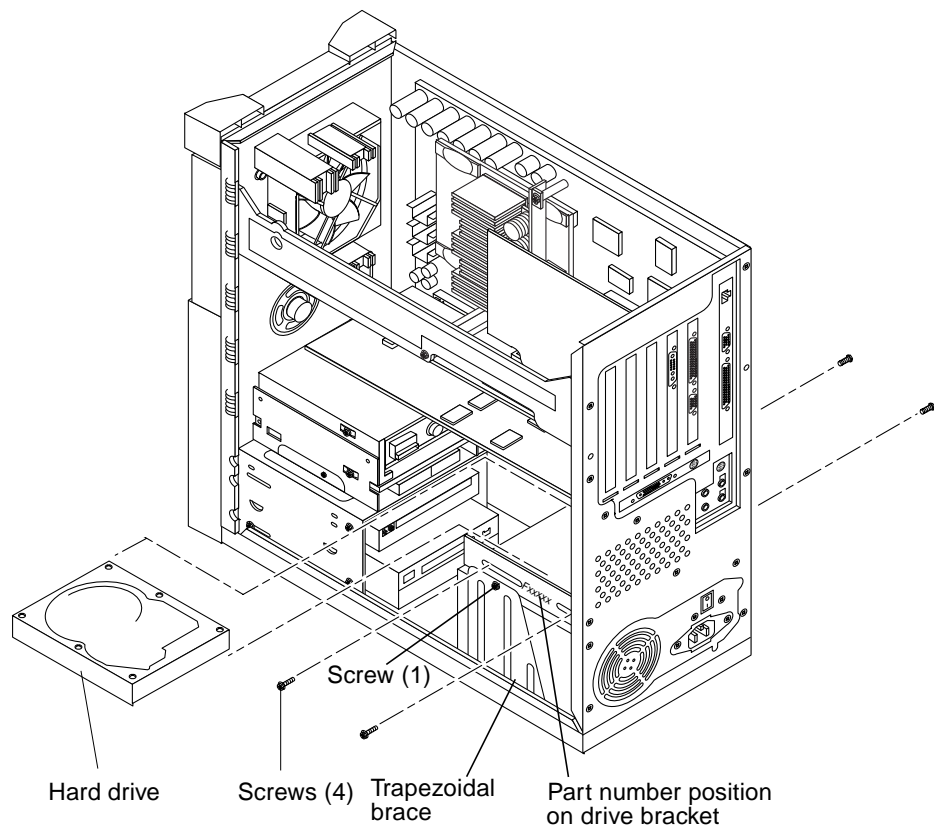

FIGURE 13 Installing or Replacing a Rear Hard Drive (Ultra 10)
1. Remove an existing hard drive from the Ultra 10 chassis rear as follows (if you are not replacing an existing hard drive, start with Step 2). See FIGURE 13:
2. Install the new hard drive into the Ultra 10 chassis rear as follows (FIGURE 13):